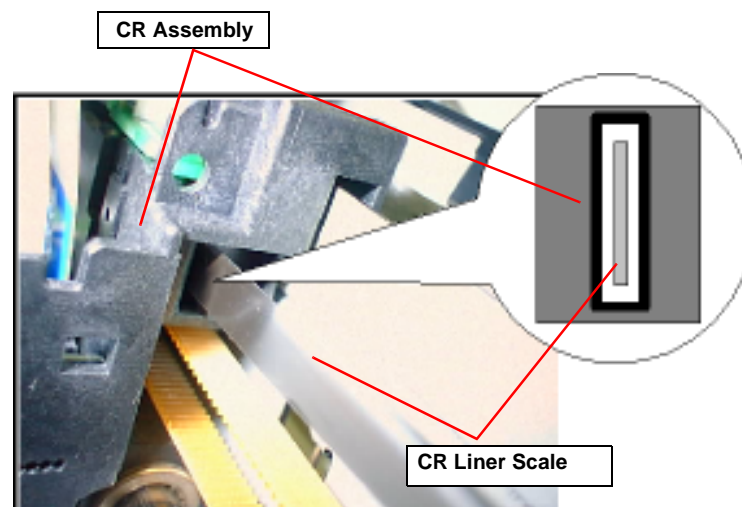

Figure 4-41. Checking the CR Encoder Slit Plate condition
- Make sure that the CR Liner Scale is not in contact with either side of the slot in the CR unit after you set the CR Liner Scale into the slot. Refer to the Figure 4-41.